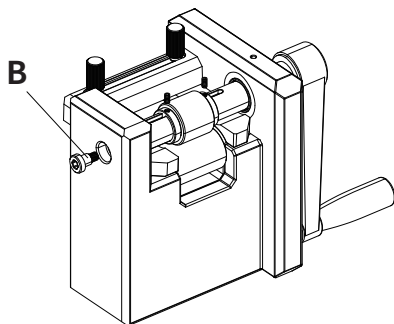

Fig.12
7.As shown in Fig. 12, use P to tighten and secure B in place.